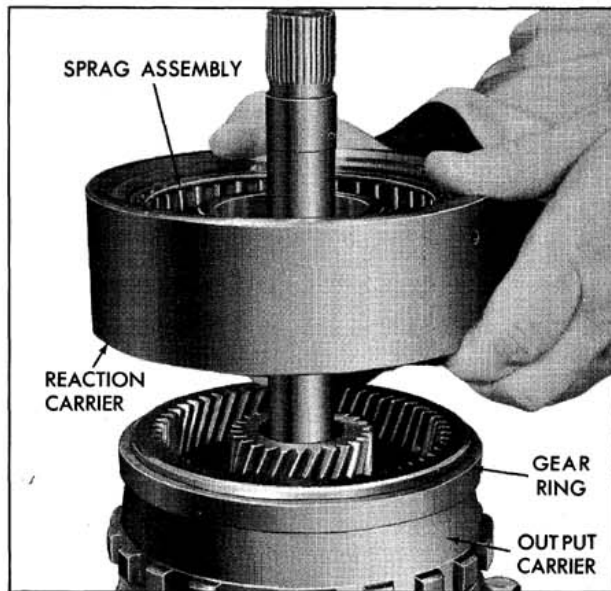

Fig. 6-82 Removing Reaction Carrier and Sprag
4. Remove the reaction carrier and sprag assembly. (Fig. 6-82)